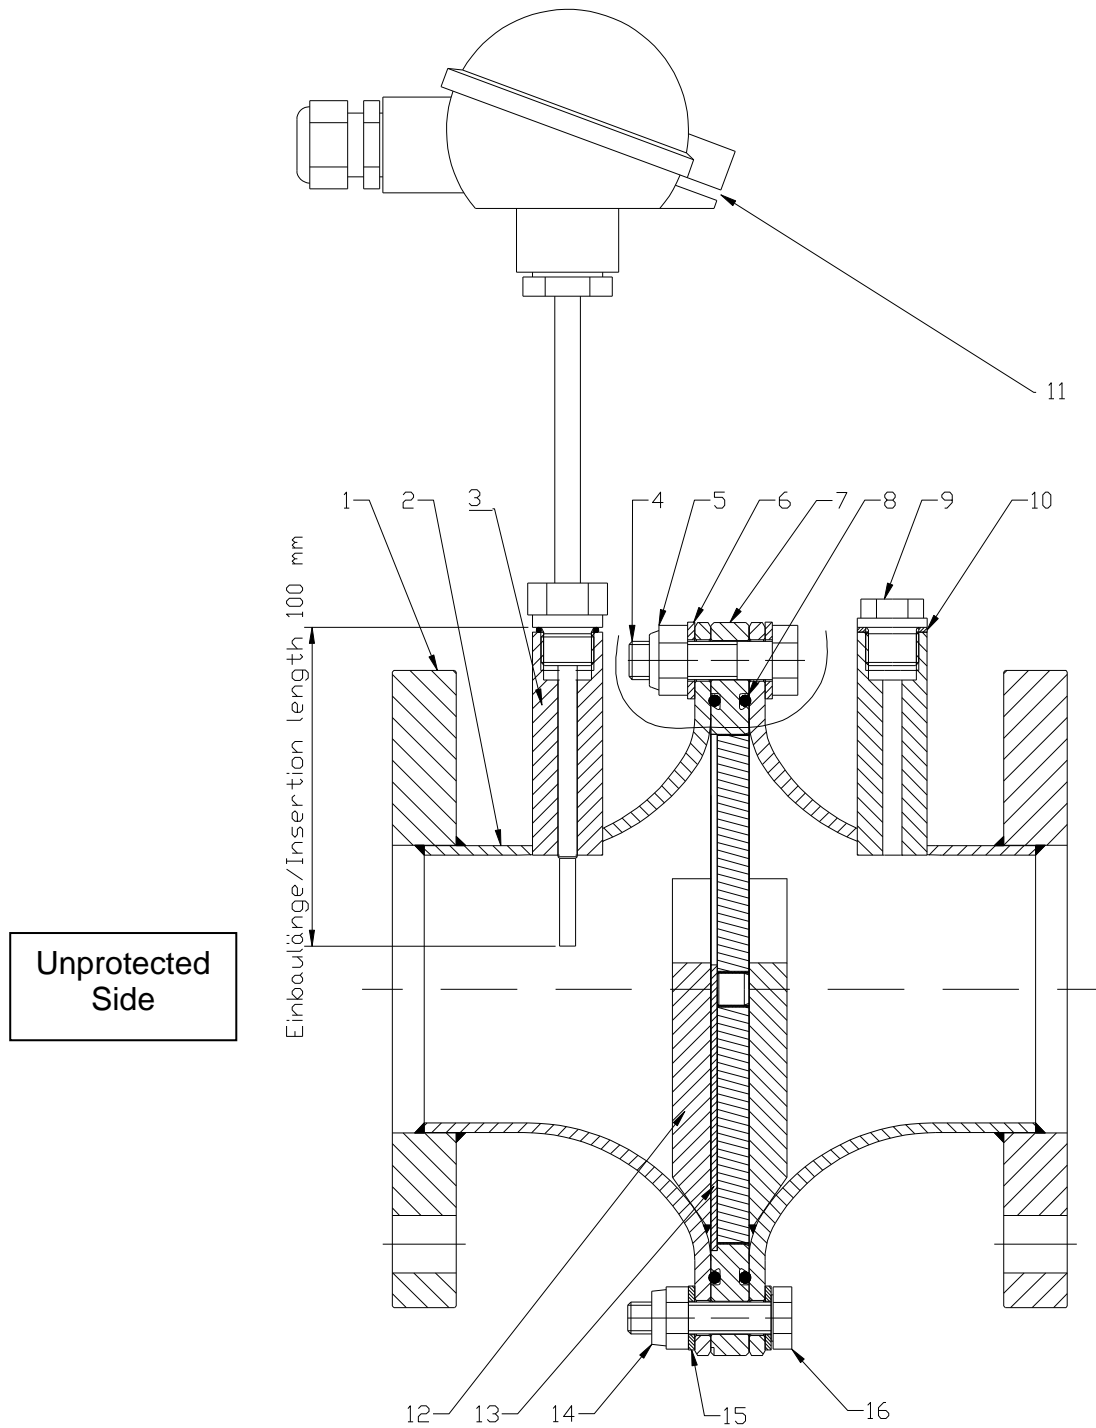

Fig. 1
(See figure 1)
(See figure 1).
- Spare part no. (Please refer to **fig. 1** for items)